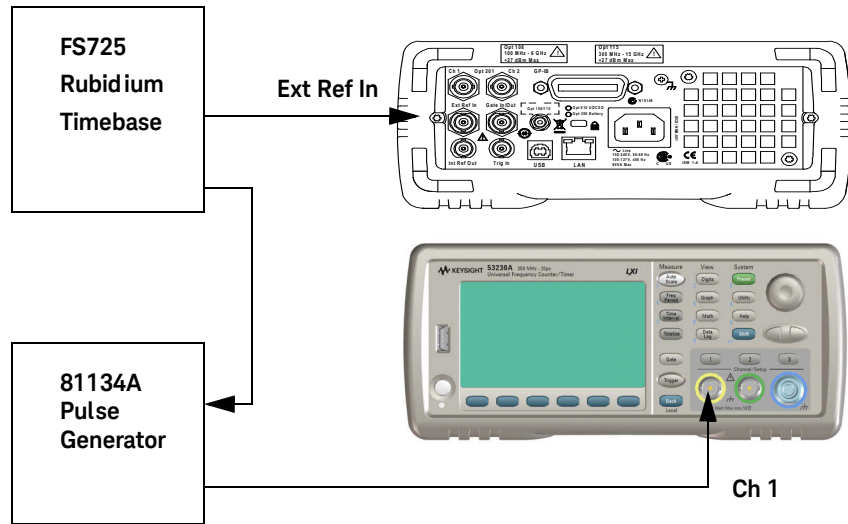

Figure 1-6 Pulse width test setup
- 1 Connect the equipment as shown in Figure 1-6.